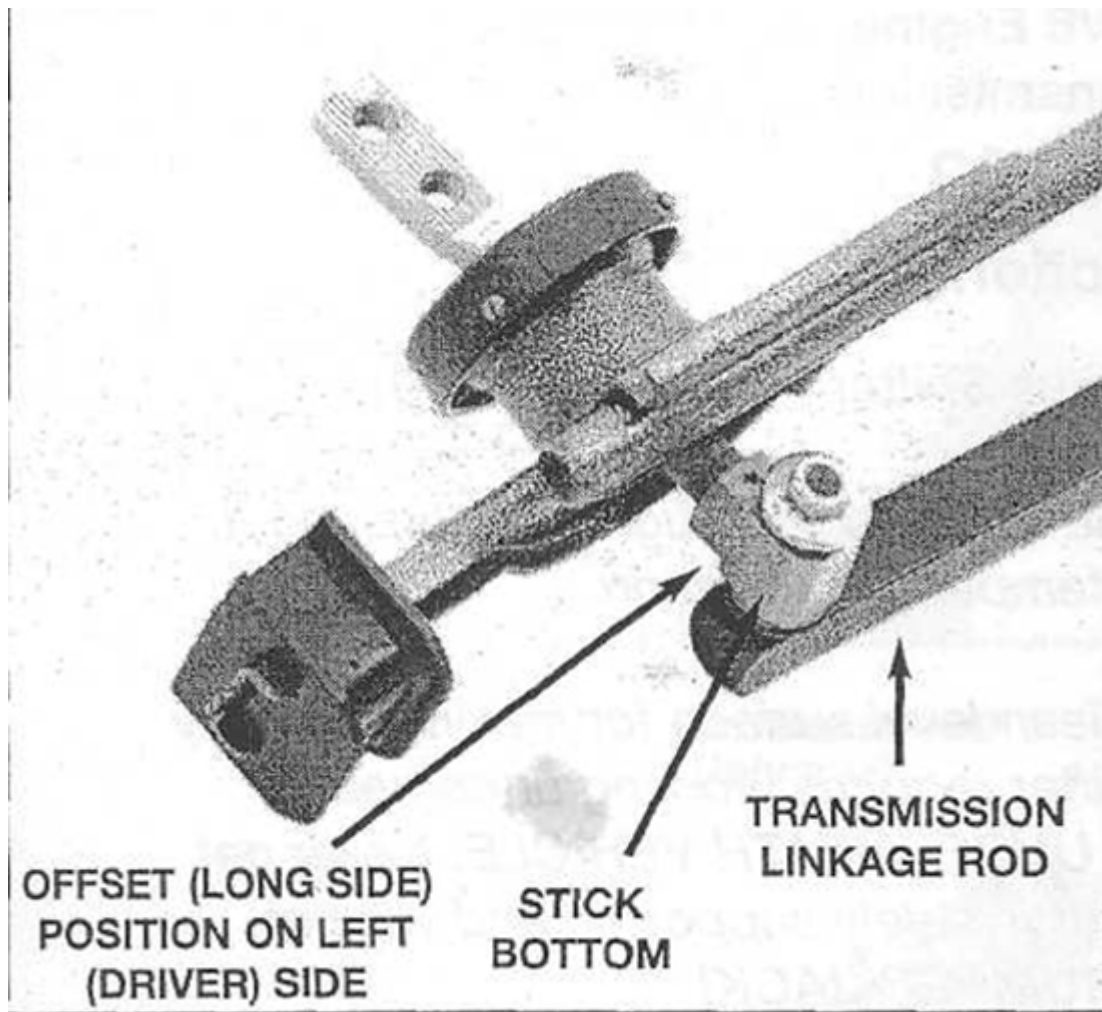

Figure 2
7. From underneath the car, use a 13mm wrench to remove the hex nut that secures the transmission linkage rod to the bottom of the factory shifter (see fig.2). Disconnect the rod by pulling it out of the shifter stick bottom.
1. Place Hurst shifter assembly on workbench. Insert the two (2) metal-flanged sleeves into the urethane bushings located in the Hurst shifter assembly arm. Insert the two (2) plastic linkage rod bushings into the shifter stick bottom. Lightly lubricate as needed.
6. Lightly lubricate stem on shift rod linkage and - insert into bushings located in shifter stick bottom. Important Offset (long side) of connector located on stick bottom should be positioned to the left (driver) side (see fig.2). Fasten with hex nut previously removed and tighten securely using a 13mm wrench. Note: We recommend using thread locker on the threads to prevent loosening.
7. From inside the car, attach the Hurst upper stick to the stick bottom with the two (2) button head socket bolts and star tooth lock washers supplied.